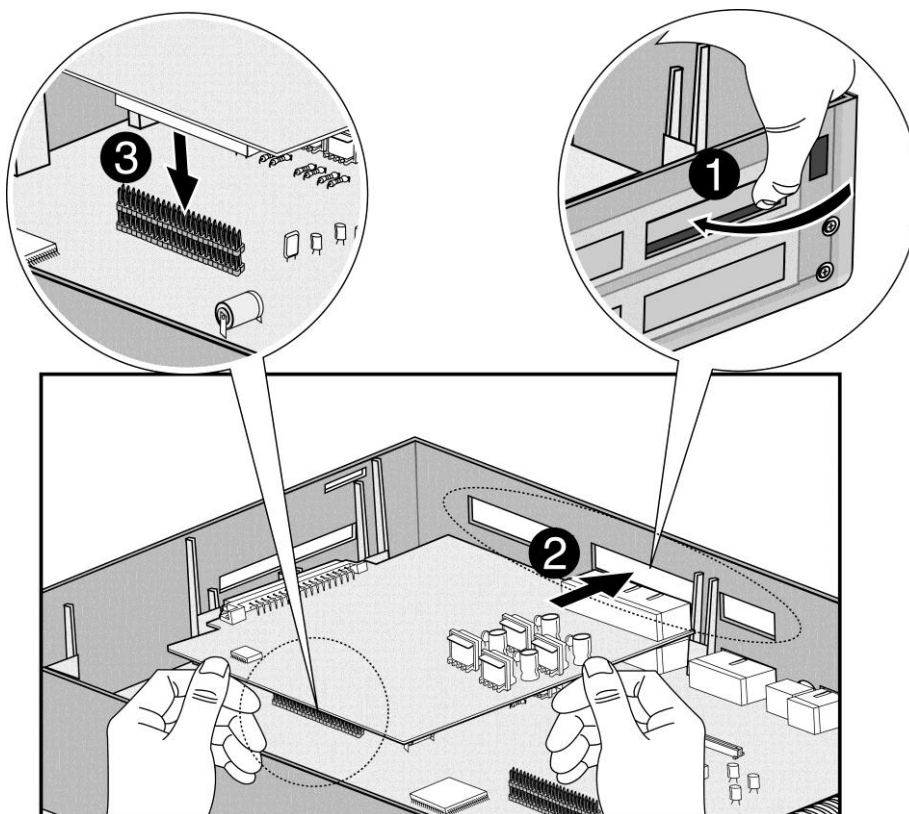

Figure 3.1 Board Installation
1. Before inserting the board, remove the dummy, shown #1 in Figure 3.1.